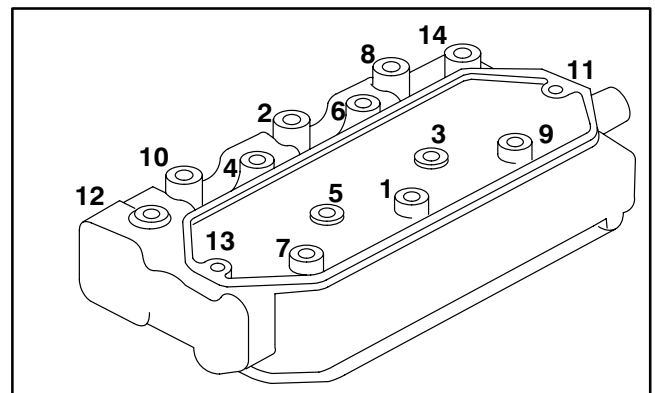

Figure 11
2. Using the sequence in Figure 11, torque head bolts to 25 ft-lb (3.5 kg-m).